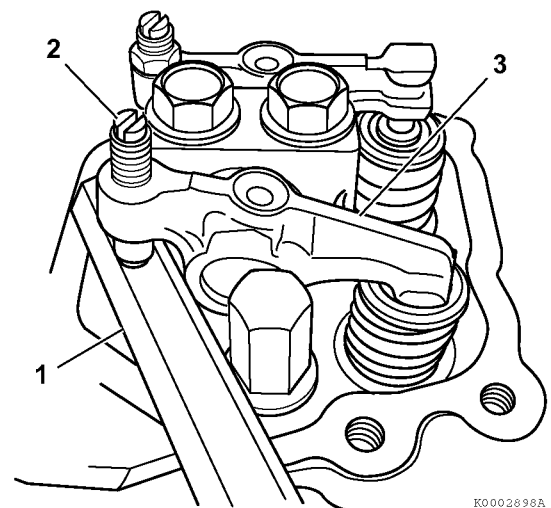

Figure 6-29
4. Remove the intake valve adjustment screw lock nut from the intake valve rocker arm (3, **Figure 6-29**) of No. 1 cylinder, and back out the adjustment screw (2, **Figure 6-29**) enough to remove the push rod.
*Note: The use of a "bridge" tool is needed to support the valve adjustment screw and open the valve. Use a suitable tool that allows adjustment of the valve adjustment screw. An 8 to 10 mm hex wrench is shown as an example in (1, **Figure 6-29**).*